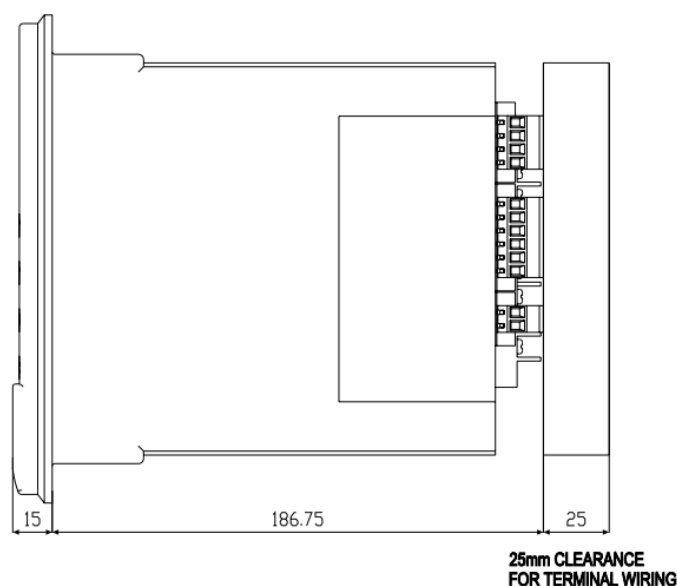

Figure 1-1 7SR45 Clearance for Terminal Wiring
7. Maintain a minimum clearance from the relay as given in Figure 1-1 to ensure safety and accidental touch of terminals. In case of work area is restricted in a cubicle, then suitable protective terminals to be provided in the cubicle.